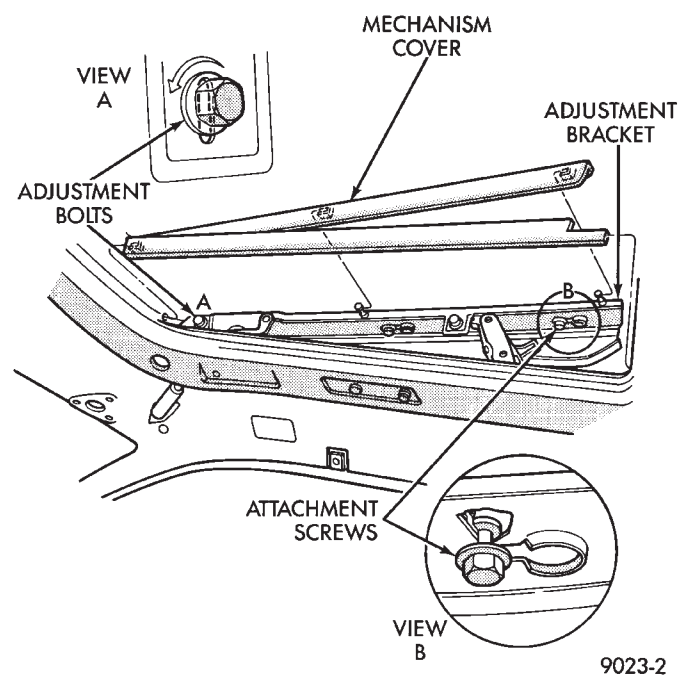

Fig. 1 Glass Adjustment
- (1) Open glass to vent position.
- (2) Slide upper half of mechanism covers rearward until clips disengage and separate covers from vehicle (Fig. 1).
- (3) Close glass panel, separately loosen adjusting bolts and individually adjust the corners of the glass.
- (4) Adjust front of glass panel to 1.0 mm (0.040 in.) below top surface of roof panel.
- (5) Adjust rear of glass to 1.0 mm (0.040 in.) above top surface of roof panel.
- (6) Secure adjustment bolts and install cover.
- (1) Remove wind deflector mechanism covers (Fig. 1)
- (2) Position glass to vent position.
- (3) Position sunshade full rearward.
- (4) Loosen nuts holding glass panel to side adjustment brackets.
- (5) Slide glass panel rearward 12mm (0.5in.) and separate glass from sunroof unit.